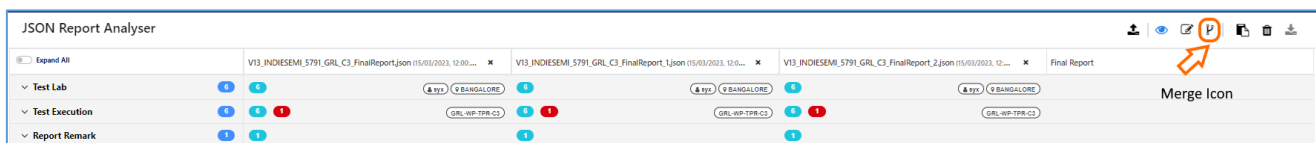

FIGURE 8.88: MERGE ICON
1. Click on the Merge icon  as shown in Figure 8.88.